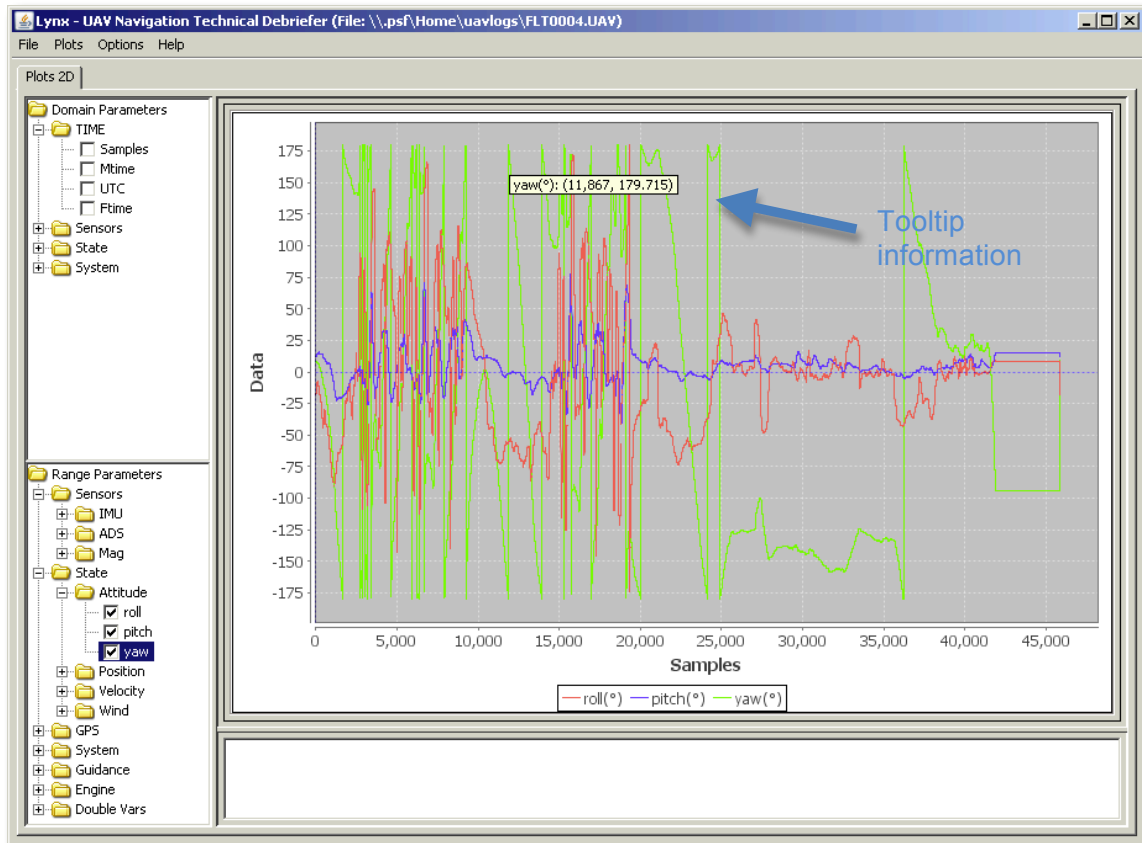

Figure 6
- The chart can be completed by, for example selecting **pitch** and **yaw** checkboxes. The curves will appear one by one as shown on the figure 6.